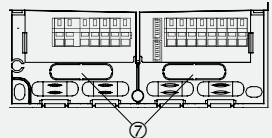

Fig. 1: cable feed from the rear
- Remove the plastic flaps ⑦ from the rear side of the case using an appropriate tool (fig. 1).